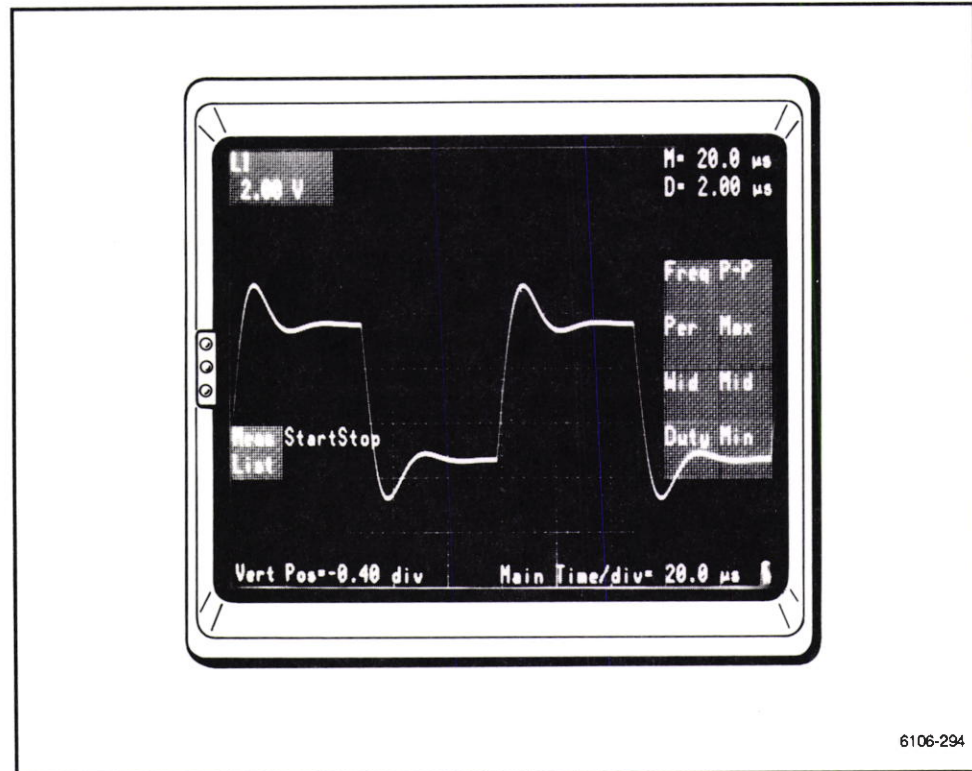

Figure 2-95. The MEASURE major menu.
1. Press the MEASURE major menu button. (See Fig. 2-95.)